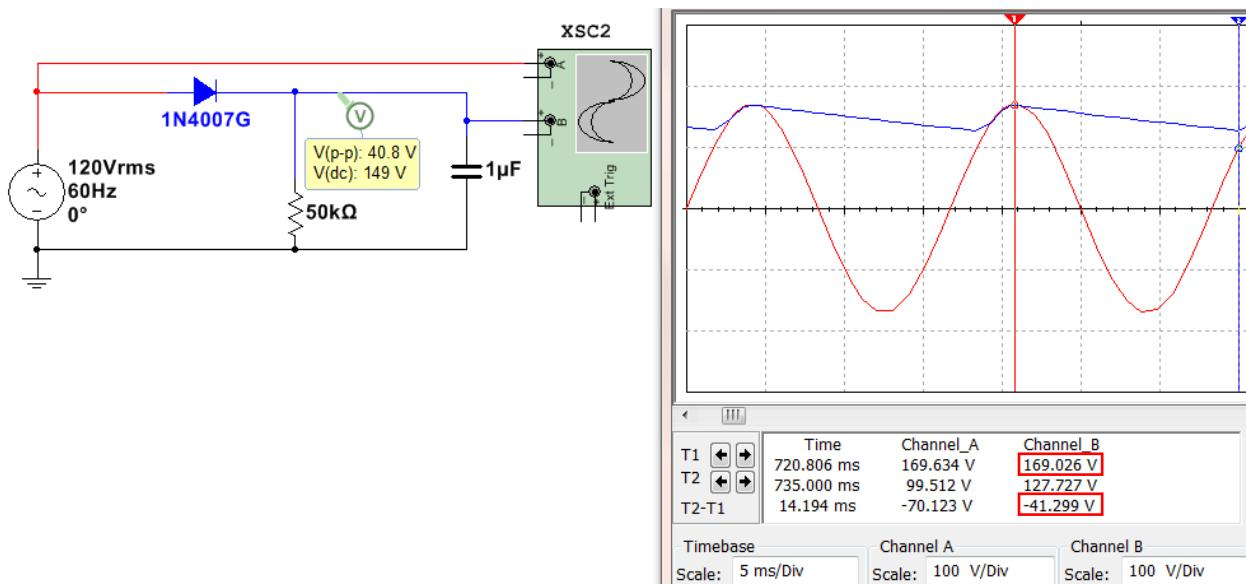

Figure 6.16: Half-Wave Peak Rectifier.
Rectification is the first step in converting an AC signal to a DC signal. The next step would be to add a capacitor in parallel with the load resistor where  $V_o,pk$  is measured so that the voltage will not be allowed to drop very fast due to the time constant of the capacitor. Once the “smoothing capacitor” is added the rectifier is called a “Peak Rectifier”. An example of a half-wave peak rectifier is shown in Figure 6.16. The calculations and Multisim measurements of a half-wave peak rectifier are shown below (See equation summary in Table 6.1).
- $V_s$  = peak input voltage =  $120 \cdot \sqrt{2} = 169.7 \text{ V}$  (169.634 V in Multisim - Figure 6.16).
- $V_o,pk$  = peak output voltage =  $V_s - 0.7\text{V} = 169 \text{ V}$  (169.026 V in Multisim - Figure 6.16).
- $V_r$  = ripple voltage ( $V_o,pk$  – minimum  $V_{out}$ ) =  $\frac{V_{o,pk}}{fRC} = \frac{169}{60 \cdot 50k \cdot 1\mu} = 56.3 \text{ V}$  ( $\sim 41.3 \text{ V}$  in Figure 6.16).
- $V_{o,dc}$  = the approximate DC voltage (centerline of the ripple). In Figure 6.16  $V_{o,dc}$  is equal  $169 - 0.5 \cdot V_r = 169 - 0.5 \cdot 41.3 = 148.4 \text{ V}$ . The DC voltage probe in Figure 6.16 measures the DC voltage as 149 V.
The equations for half-wave and full-wave peak rectifiers that were shown in Figures 6.16 and 6.17 are summarized in Table 6.1. **Note:** The **Full Wave Center Tapped** equations are shown, but this type of rectifier circuit is not covered in detail in this eBook.